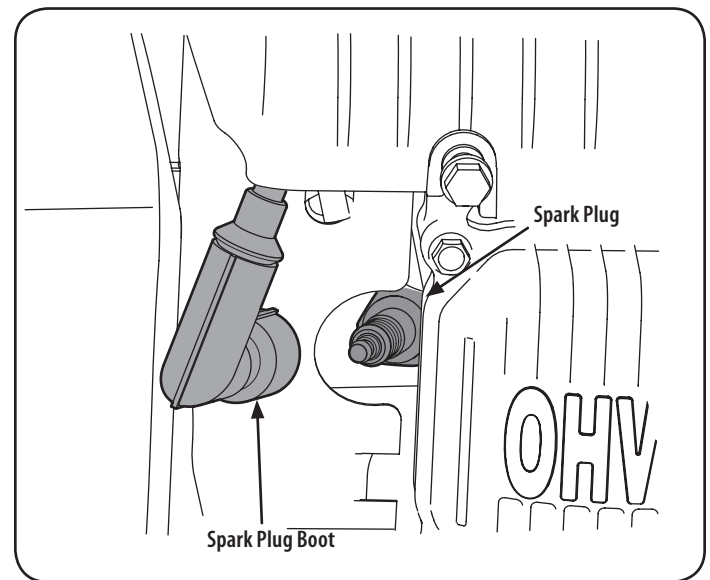

Figure 35
1. Remove the spark plug boot and use a spark plug wrench to remove the plug. See Figure 35.